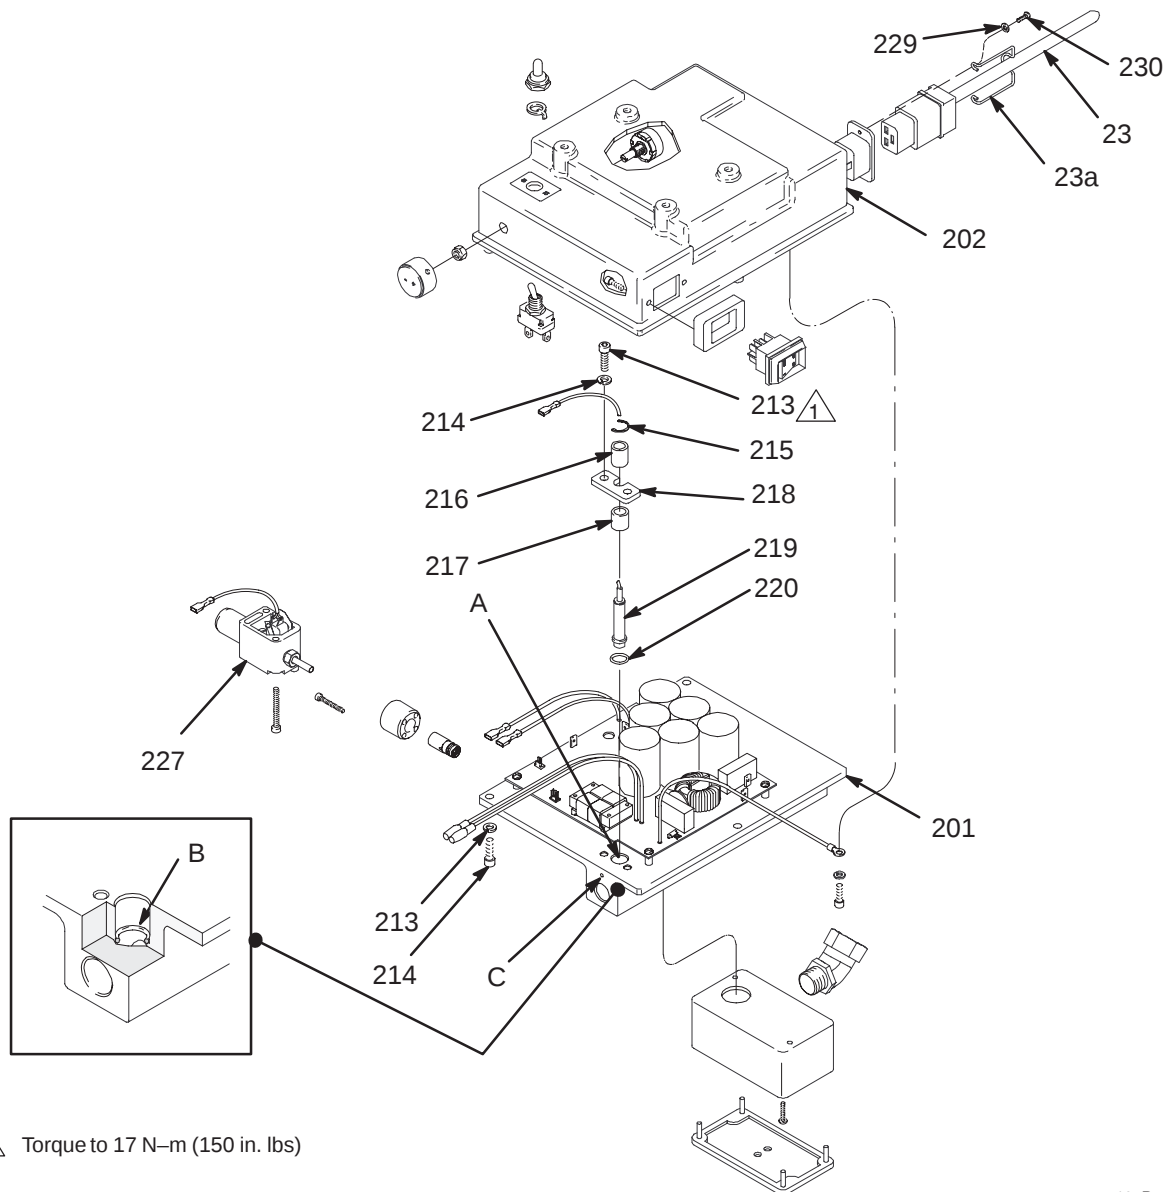

Fig 16
2. Remove power cord (23) and plug retainer (23a) by removing screws (230) and washers (229).
3. Remove screws (213) and lockwashers (214). Carefully remove control housing (202) from control motor board (201) so internal wiring is not damaged. Lay housing on side next to control motor board. See Fig. 16 and parts list.
1. See Fig. 16 and pressure control part list. Disassemble pressure control as in steps 1 through 4 on page 20 and remove old transducer (219) and, if necessary, old o-ring (220).